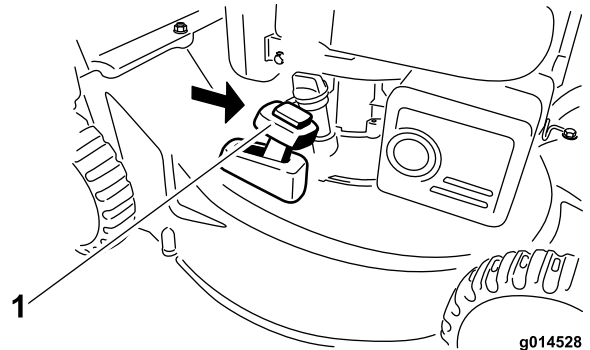

Figure 18
2. Install the grass bag; refer to Removing the Grass Bag (page 10) and move the bag-on-demand lever to the **bagging** mode (Figure 18).
**Note:** If the grass bag is on the machine, remove it before rear-discharging the clippings; refer to Removing the Grass Bag (page 10). The bag-on-demand lever should be in the **bagging** mode (Figure 18).